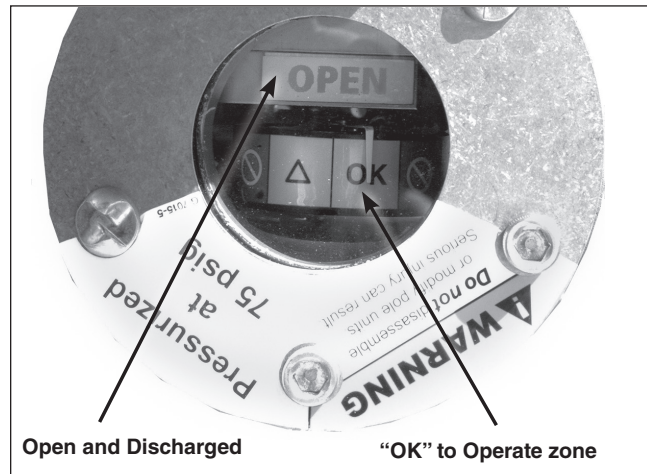

Figure 10. Make sure the pole-unit is open and discharged. Also make sure the gas-pressure indicator is in the “OK” to Operate zone.
- STEP 5.** Check the indicator at the base of each pole-unit to make sure the pole-unit is open and discharged. Also check that the gas-pressure indicator is in the “OK” to Operate zone. See Figure 10.